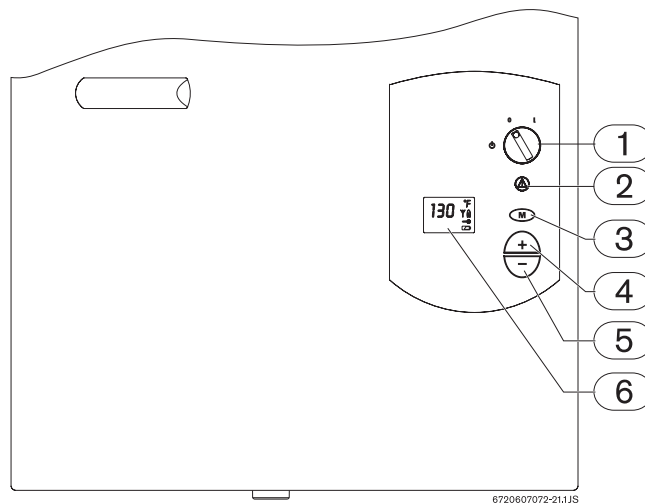

Fig. 19
- ▶ **2.** The gas valve must be shut off by putting the ON/OFF switch to the OFF position (turn to the left position). Wait five (5) minutes to clear out any gas. If you smell gas, STOP! Follow "B" in the safety information above. If you do not smell gas, go to the next step.
**NOTE:** on a first time initial installation or after gas line work has been done, air in the gas line will cause ignition delay when the hot water is turned on. This will result in an error (EA or EC) on the units display screen. This is normal. When this occurs, leave the hot water running and wait 3-5 seconds, then press reset button to reset the unit (Fig. 19, pos. 2). Wait for (EA or EC) to disappear. The heater will begin to attempt ignition again, if the (EA or EC) reappears then repeat this same process until all air has been bled from the gas line.